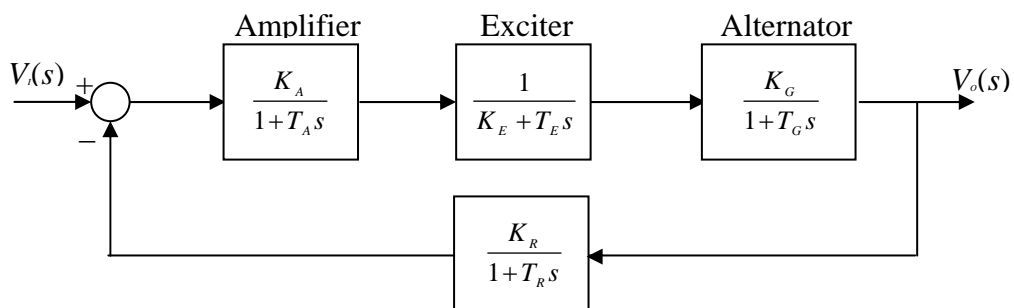

Figure 10.2 Excitation Control System
10.2 A synchronous generator excitation control system is shown in Figure 10.2. The parameters available are: